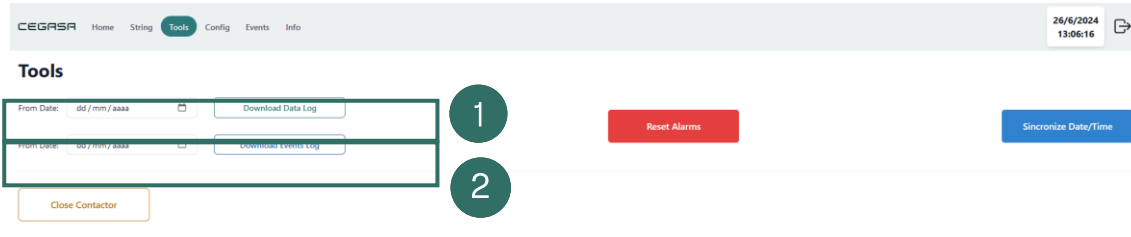

Figure 4-1.
**Figure 4-1).** Select the start date from which you wish to download the log, click the **Download Data Log** button and select the PC folder where you want to download the logs.
**Figure 4-1).** Select the start date from which you wish to download the log, click the **Download Log Events** button and select the PC folder where you want to download the logs.